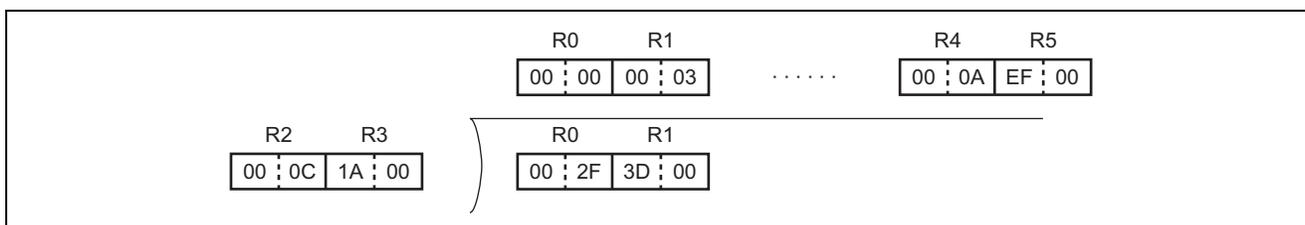

Figure 3 Example of Division with Upper Bits Unused
- When the upper bits are not used (see figure 3), set them to 0; otherwise, a correct result cannot be obtained because division is done on the numbers including indeterminate data.